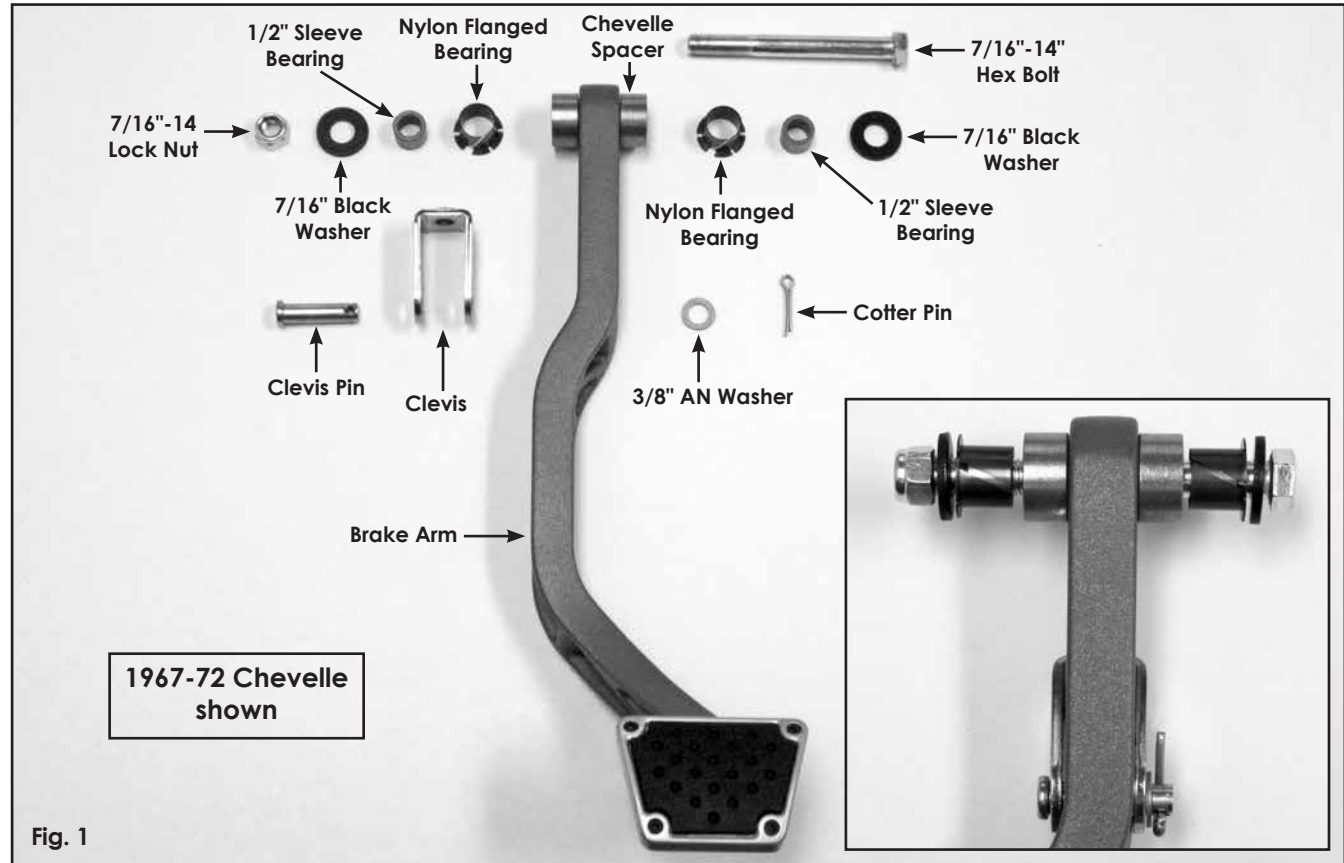

Fig. 1
Refer to Fig. 1, Fig. 4, and Fig. 6 for the component names.
- 1967-72 Chevelle, see Fig. 1